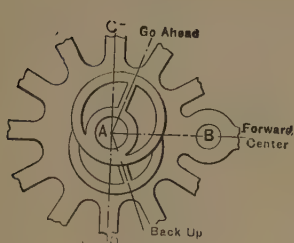

Fig. 202.
A. As in Fig. 202, the amount of angle depending on the amounts of lap and lead.